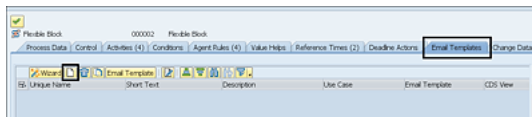

Figure 16.8 Deadline: Email Template
1. As shown in Figure 16.8, go to the **Email Templates** tab, and click on the **Create** button, which is marked.